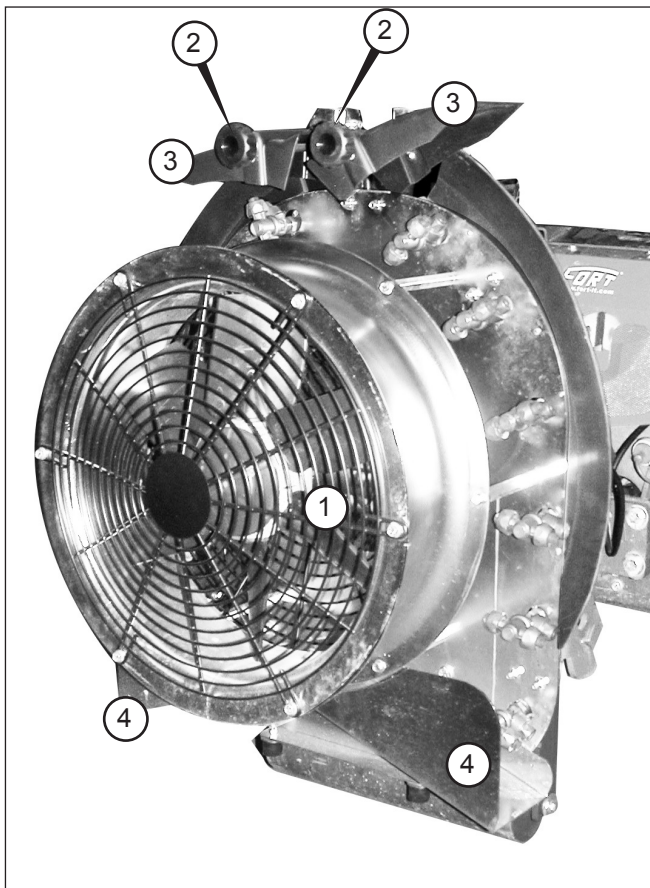

Fig. 11 - Fan
4.1.5 FAN GROUP (Fig. 11)
The atomizer ON has a fan at high speed rotation protected by a grid (1 Fig. 11).
In the upper part of the fan there are two deflectors (one on the right and one on the left - 3 Fig. 11), which can be adjusted using the two knobs (2 Fig. 11) and which are used to define the air flow direction and therefore to direct the sprayed product more precisely. In the lower part of the delivery port of the fan there are two fixed flow direction conveyors (4 Fig. 11).